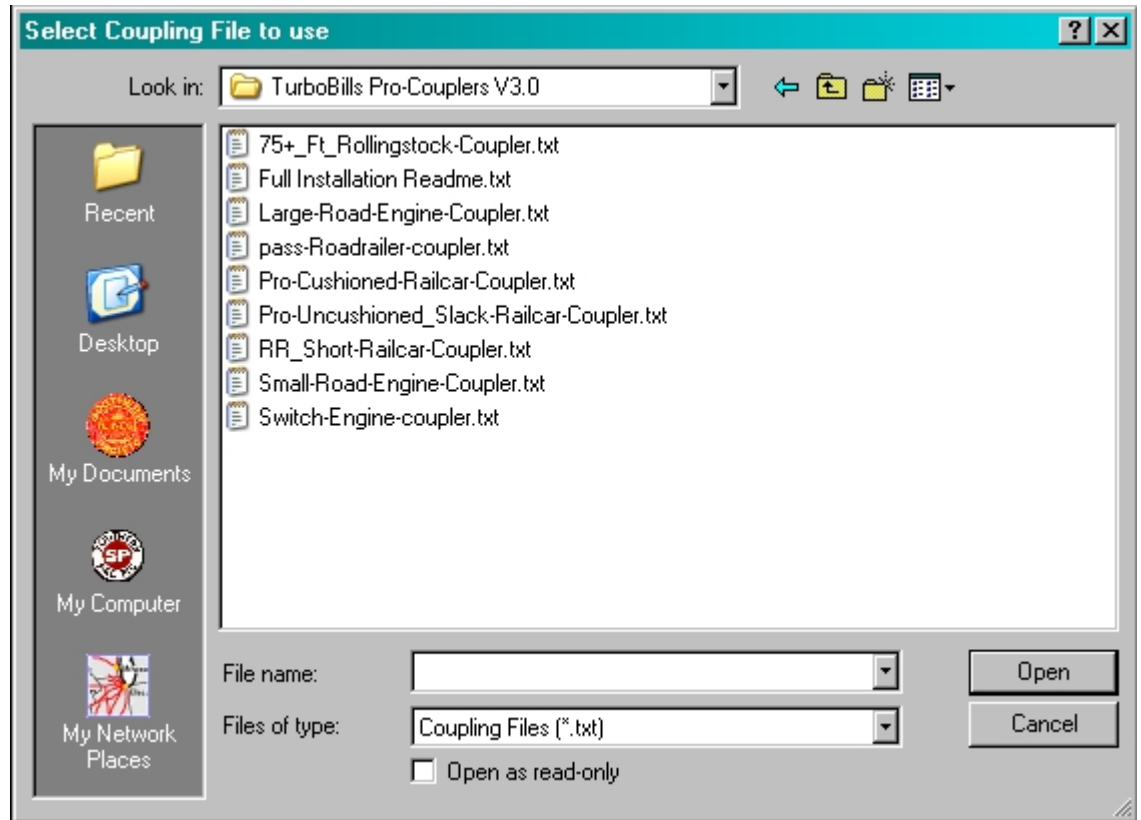

Figure 8
9. We will now double left-click on the "*Large-Road-Engine-Coupler.txt*" file as shown in Fig. 8. **Route_Riter** will now upgrade the items you have highlighted in the big window of the eng/wag file editor. **Route_Riter** will also automatically recalibrate your **.sd** file to dimensions that work best with the coupler chosen. It will also create a **.BAK** file so you can restore the original **.sd** file if you do not like the one **Route_Riter** created. The values will be recalculated to the nearest 1/100 value as MSTs does not like long decimal parameter values. The eng/wag editor will briefly display each item using the **shapeviewer** for a few seconds as it upgrades that item. This way you can go back and choose a different coupler if you not satisfied with the one you have chosen for that item after the process is completed for all items highlighted. When the process is completed you should see the window in Figure 9, below.